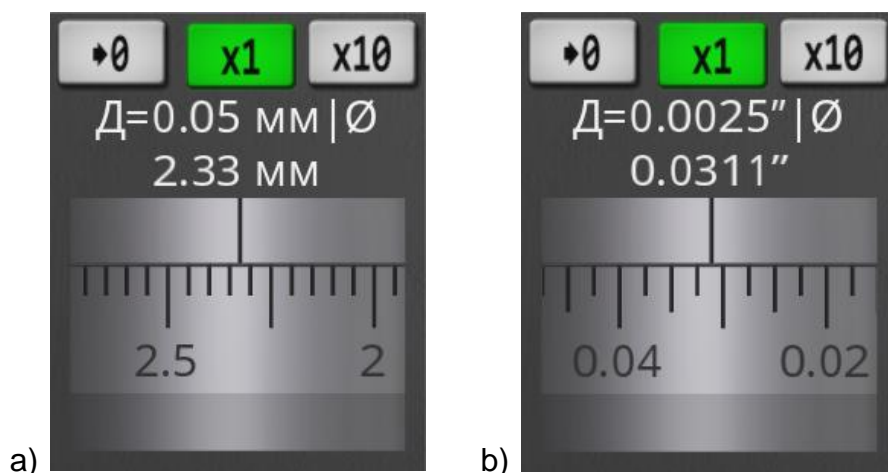

Figure 9 – Cross Feed Limb Control Panel with Scale Image in Metric (a) and Inch (b) Measurement Systems
Control panels are built on the same principle. The main part of the panel is occupied by a cylindrical scale of the limb, graded according to the currently selected measurement system (Fig. 9). Above the scale, the price of the limb division (D) and the current value displayed on the scale are displayed. In the upper part of the panel, there are three functional buttons – the zero limit button «0», the normal rotation mode button «x1» and the accelerated rotation mode button «x10».